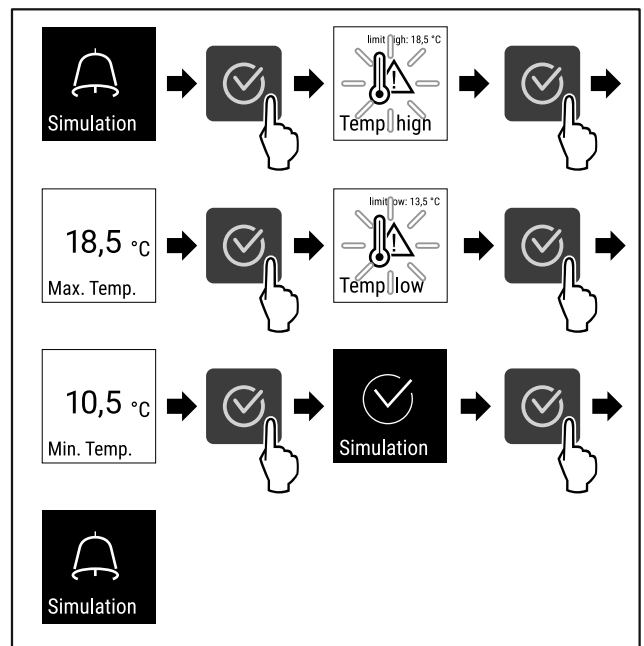

Fig. 121
- ▶ Complete steps (see Fig. 121) .